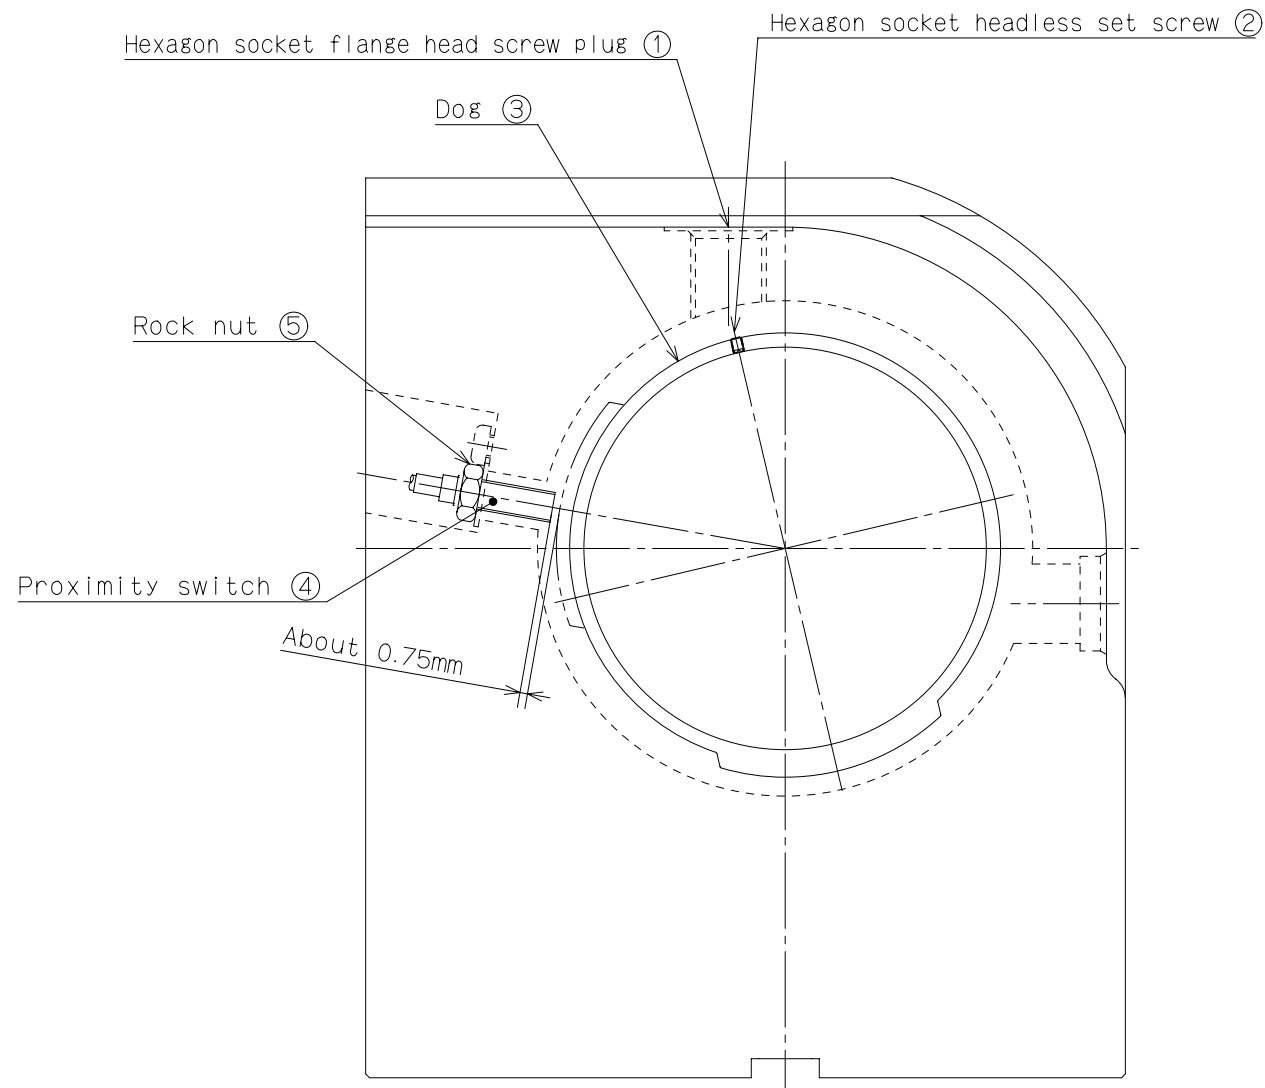

Fig. 4
9-2 ZRN device Adjustment (See Fig.4)
- 1) Proximity Switch (See Fig. 4)